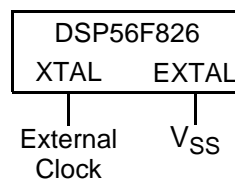

Figure 9. Connecting an External Clock Signal using XTAL
The recommended method of connecting an external clock is given in Figure 9. The external clock source is connected to XTAL and the EXTAL pin is grounded.
1. See **Figure 9** for details on using the recommended connection of an external clock driver.